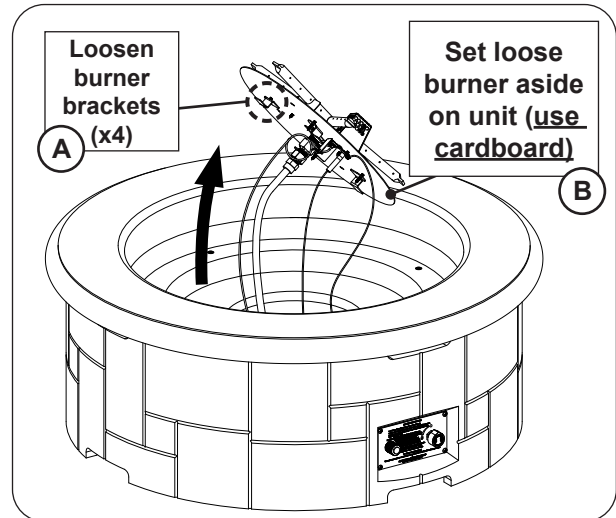

Fig. 32-2 Gain access to interior of unit
2. Use a $\frac{5}{16}$ " nut driver to loosen the 4 screws found on the burner assembly (see Fig. 32-2, A).
3. Carefully lift out the burner just enough to set it off to the side (see Fig. 32-2, B).